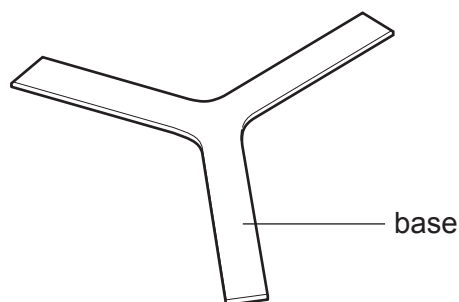

Fig. 13.2
- (b) Fig. 13.2 shows the base of the lamp that will be cut from a sheet of 2 mm thick brass.